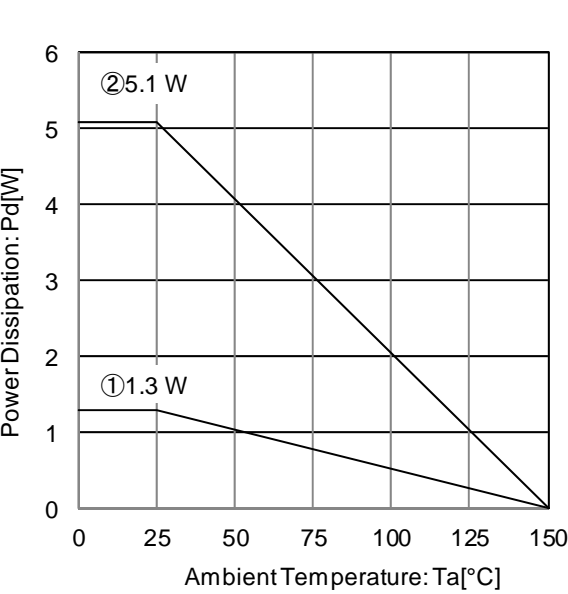

Figure 25. Package Data
Refer to the heat mitigation characteristics illustrated in Figure 25 when using the IC in an environment of $T_a \geq 25^\circ\text{C}$. The characteristics of the IC are greatly influenced by the operating temperature, and it is necessary to operate under the maximum junction temperature T_{max} .
Figure 25 show the power dissipation and heat mitigation characteristics of the TO252-3 package. Even if the ambient temperature T_a is at 25°C it is possible that the junction temperature T_j reaches high temperatures. Therefore, the IC should be operated within the power dissipation range.
At $T_a = 125^\circ\text{C}$ with Figure 25 ② condition, the calculation shows that ca 100mA of output current is possible at 10.2V potential difference across input and output.
At $T_a = 125^\circ\text{C}$ with Figure 25 ② condition, the calculation shows that ca 120mA of output current is possible at 8.5V potential difference across input and output.